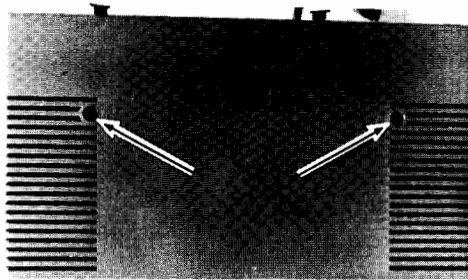

Figure 4-5. Display Unit Cover Fasteners
2. Turn the two quarter-turn fasteners shown in Figure 4-5 one-quarter of a turn counter-clockwise.